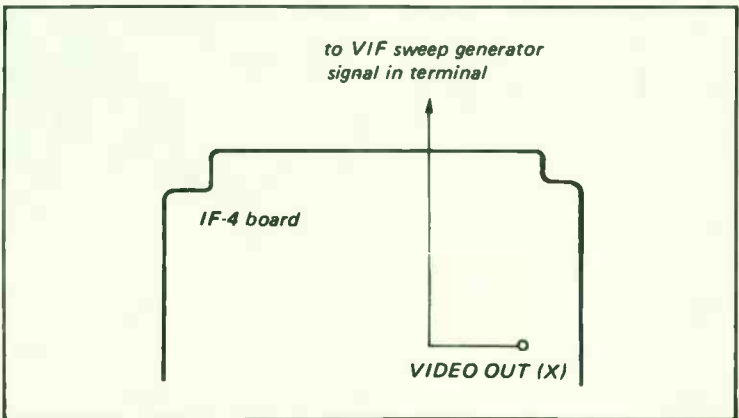

Fig. 6-29. Band correction circuit check.
4—Disconnect the signal in terminal from IC501 pin 12 and connect it to the video out (X) of the i-f-4 board. Refer to Fig. 6-29.